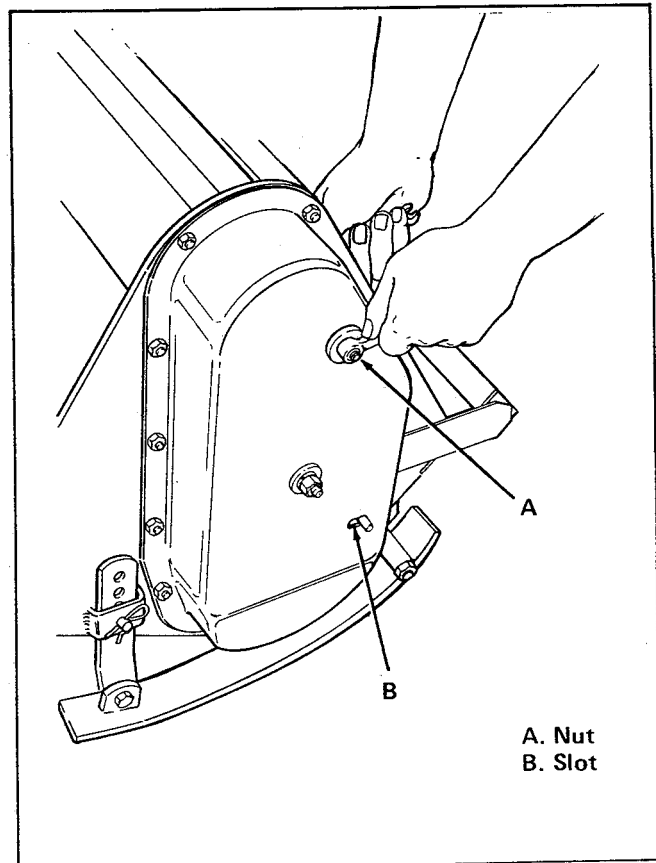

Figure 16. Chain Tension Adjustment
1. Remove two large nuts and one capscrew with grease fitting from face of chain cover (figure 16).
The capscrews which hold the chain tension rollers are mounted in slots (item B, figure 16). Because the rollers wear with use, the capscrew positions must be adjusted to maintain chain tension. Once a year, or more often if the tiller is used for commercial purposes, adjust the chain tension as follows: